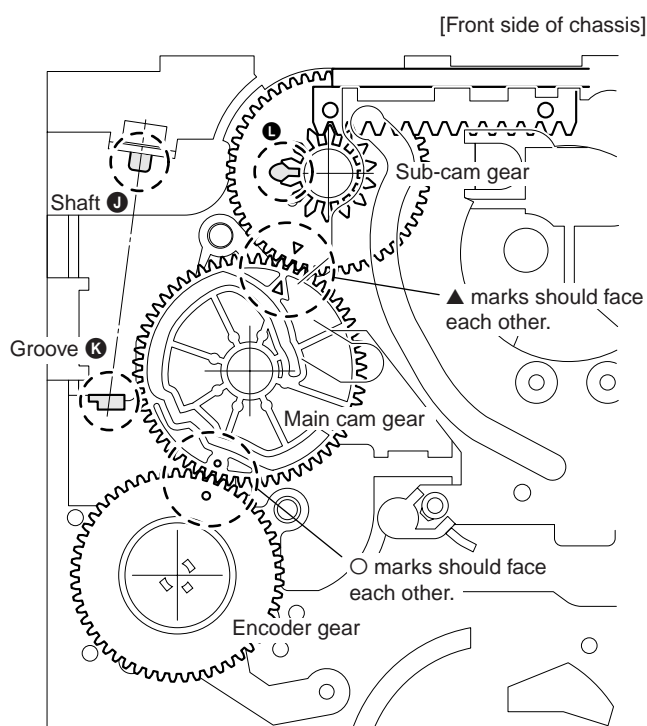

Fig. 8
- ④ Apply grease to the fixing block (shaft J and U-shaped groove K) of the coupling gear and portion L of the sub-cam gear (half size of one grain of rice for each part). (Fig. 8)
- ⑥ Attach the main cam gear while being careful of the directions of the front and rear sides. Also, take care of the phase adjustment to the sub-cam gear. (Fig. 8, 11, 12)
Adjust the phases (marked) to those of the main cam gear. (Fig. 4/Fig. 8)